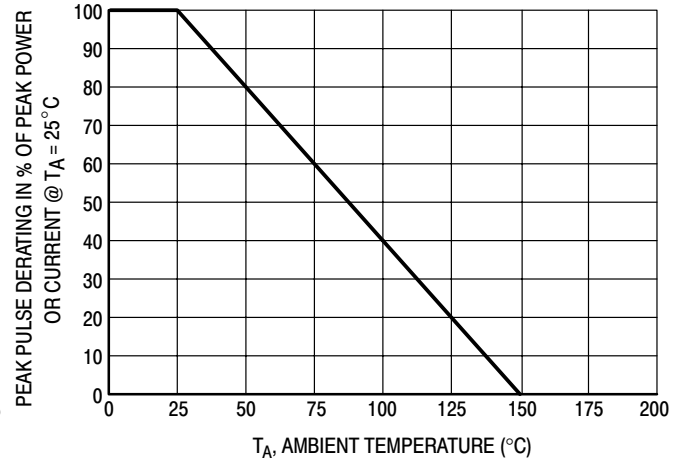
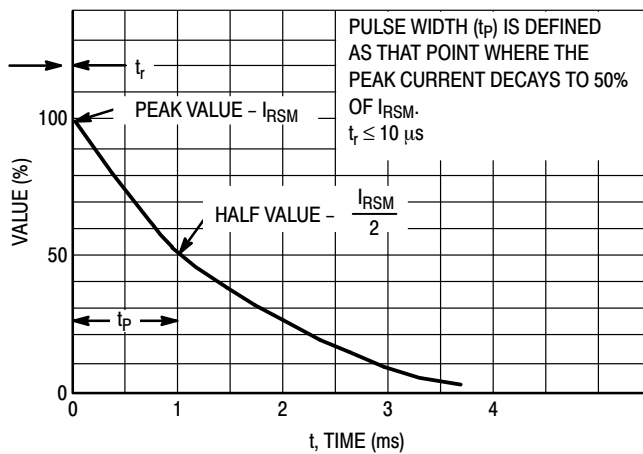
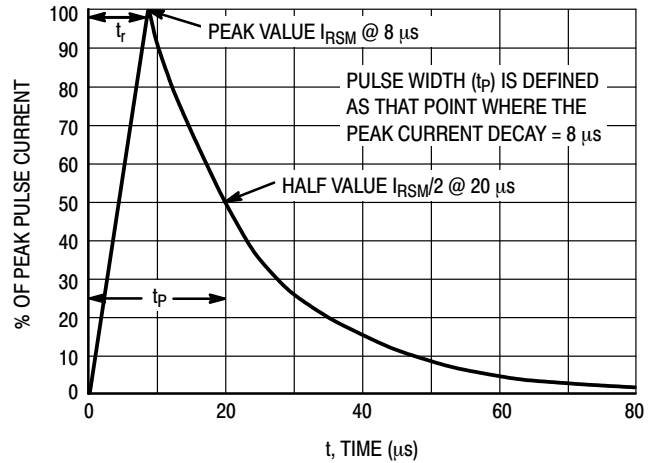

Figure 4. Pulse Derating Curve
Figure 5. 10 × 1000 µs Pulse Waveform
Figure 6. 8 × 20 µs Pulse Waveform
- Peak Power – Min. 24 W @ 1.0 ms (Unidirectional), per Figure 5 Waveform
- Peak Power – Min. 150 W @ 20  $\mu$ s (Unidirectional), per Figure 6 Waveform
1. Non-repetitive current pulse per Figure 5 and derate above  $T_A = 25^\circ\text{C}$  per Figure 4.
2. Non-repetitive current pulse per Figure 6 and derate above  $T_A = 25^\circ\text{C}$  per Figure 4.
6. Surge current waveform per Figure 5 and derate per Figure 4.